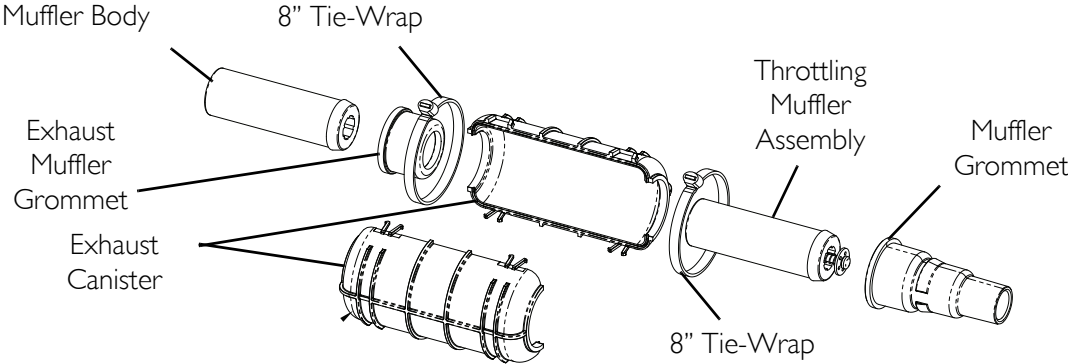

FIGURE 6.5 Replacing the Muffler Assembly
NOTE: For this procedure, refer to FIGURE 6.4 on page 26 and FIGURE 6.5 on page 27.
8. Separate the muffler assembly (Detail “A” in FIGURE 6.5).